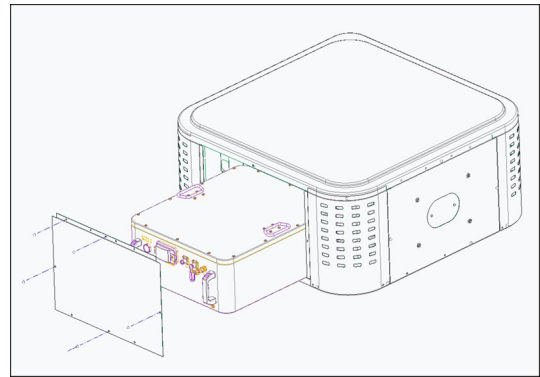

Fig. 8 – Battery Placement into Enclosure and Screw Locations
- Open the panel on the Enclosure near battery entrance by removing the four (4) screws on the front panel (see Fig. 8).